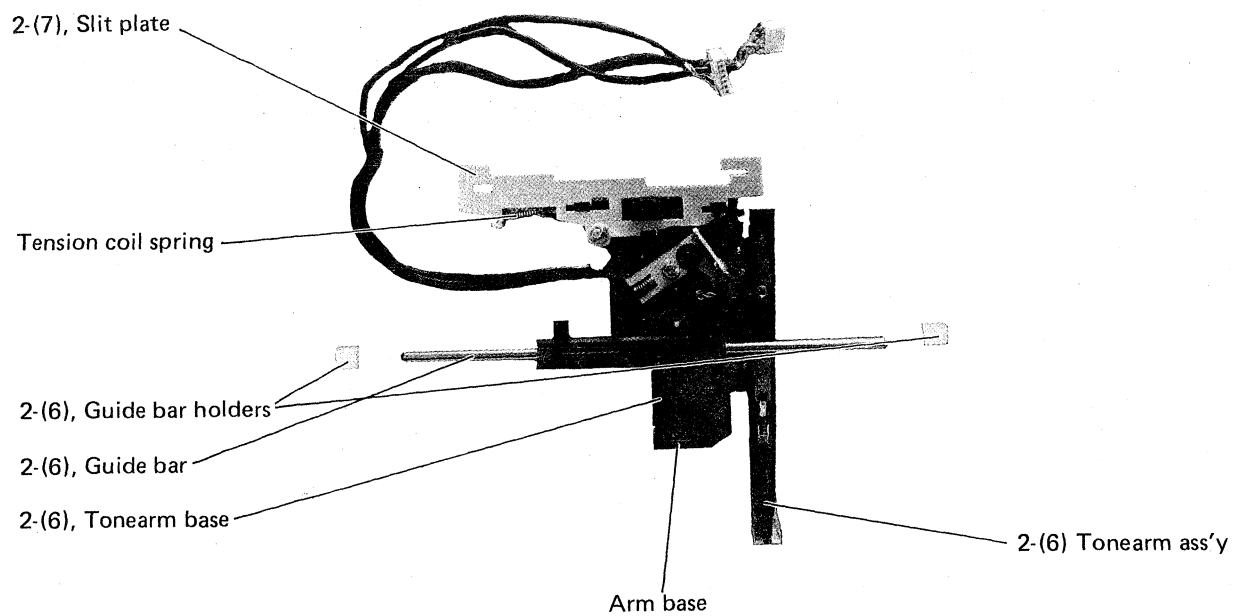

Fig. 6
- 5. Pull out guide bar holder. (See fig. 6)
- 6. Pull out guide bar from tonearm base. (See fig. 6)
- (7) Dismount slit plate ass'y. (See fig. 6)